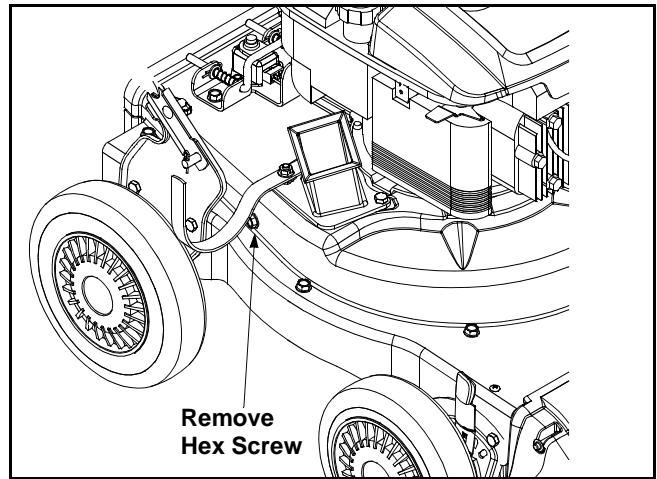

Figure 12
- Remove hex screw on right side of unit that attaches to the flail screen. It may be necessary to remove the hose bracket hanger to get access to the hex screw. See Figure 12.